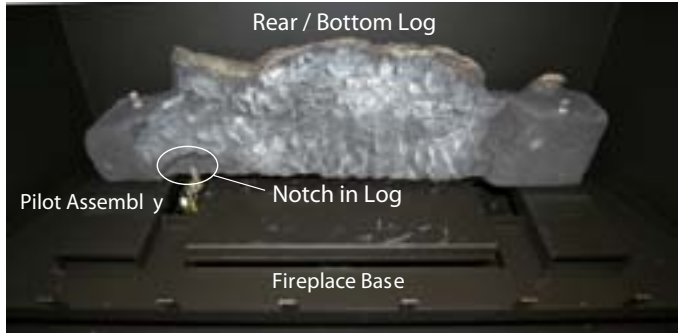

Figure 10a. Placing Bottom Rear Log.
**Step 2.** Place the bottom Rear log as shown in **figure 10a**.